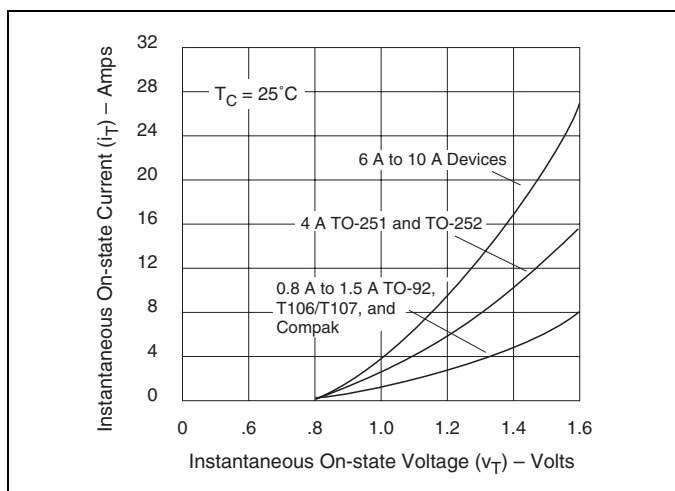

Figure E5.11 Instantaneous On-state Current versus On-state Voltage (Typical)
- See Figure E5.11 for instantaneous on-state current (IT) versus on-state voltage (VT) TYP.